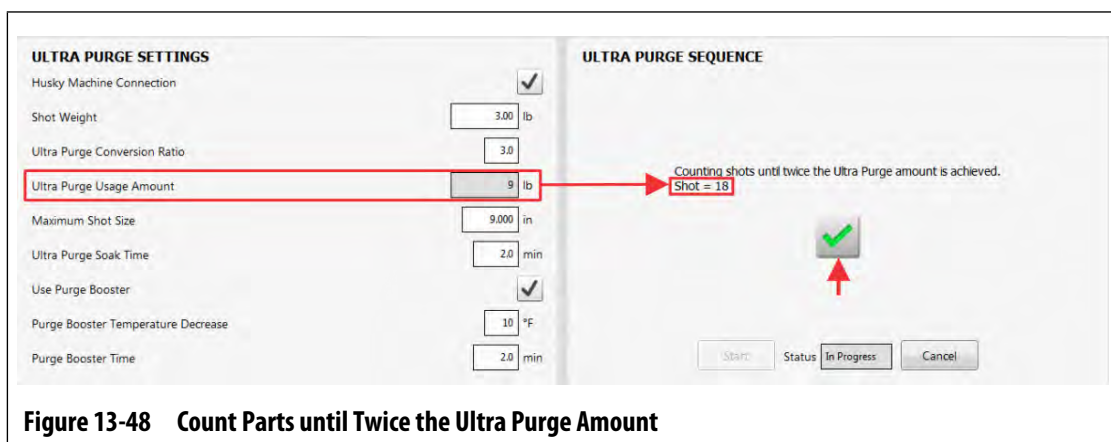

Figure 13-48 Count Parts until Twice the Ultra Purge Amount
16. Let the controller count parts until it gets to twice the Ultra Purge amount, and then touch the green check mark button (Figure 13-48).